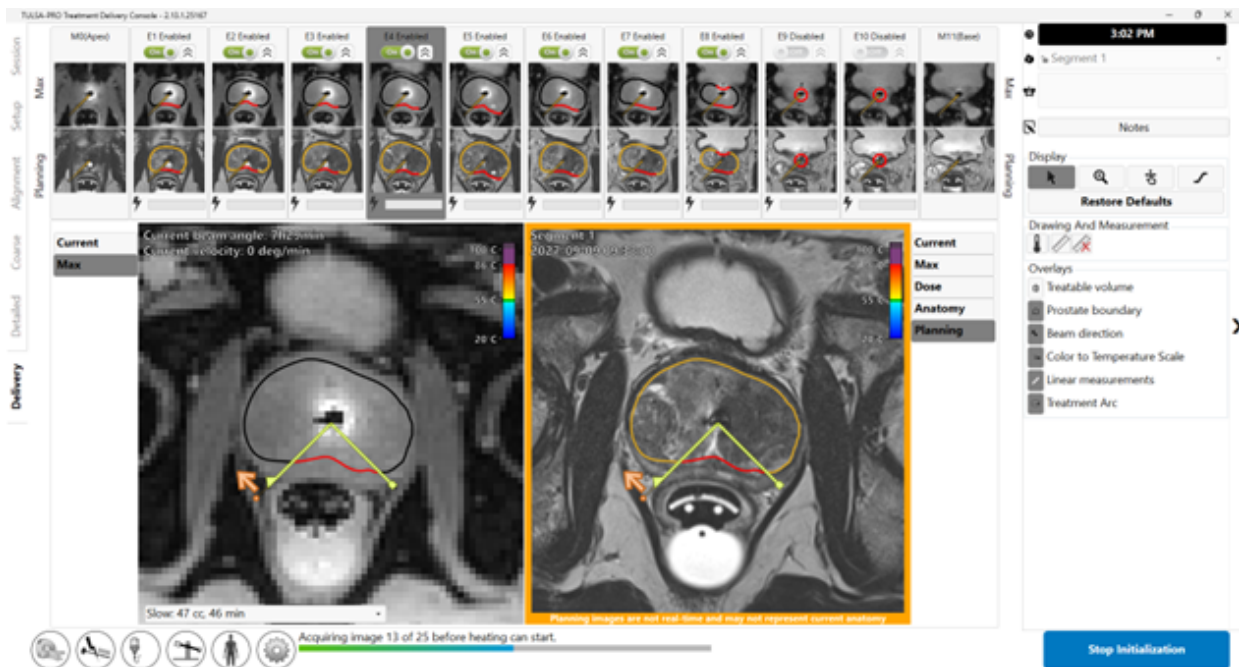

Figure 47: Treatment Initialization state
2. **Radiologist:** Click **Start treatment** on TDC. A window will prompt you to verify the core body temperature using an external temperature measurement device before proceeding. Enter the temperature in degrees Celsius and click **Confirm**. The software will enter **Treatment Initialization** where it will wait to receive thermometry images (*Figure 47*).